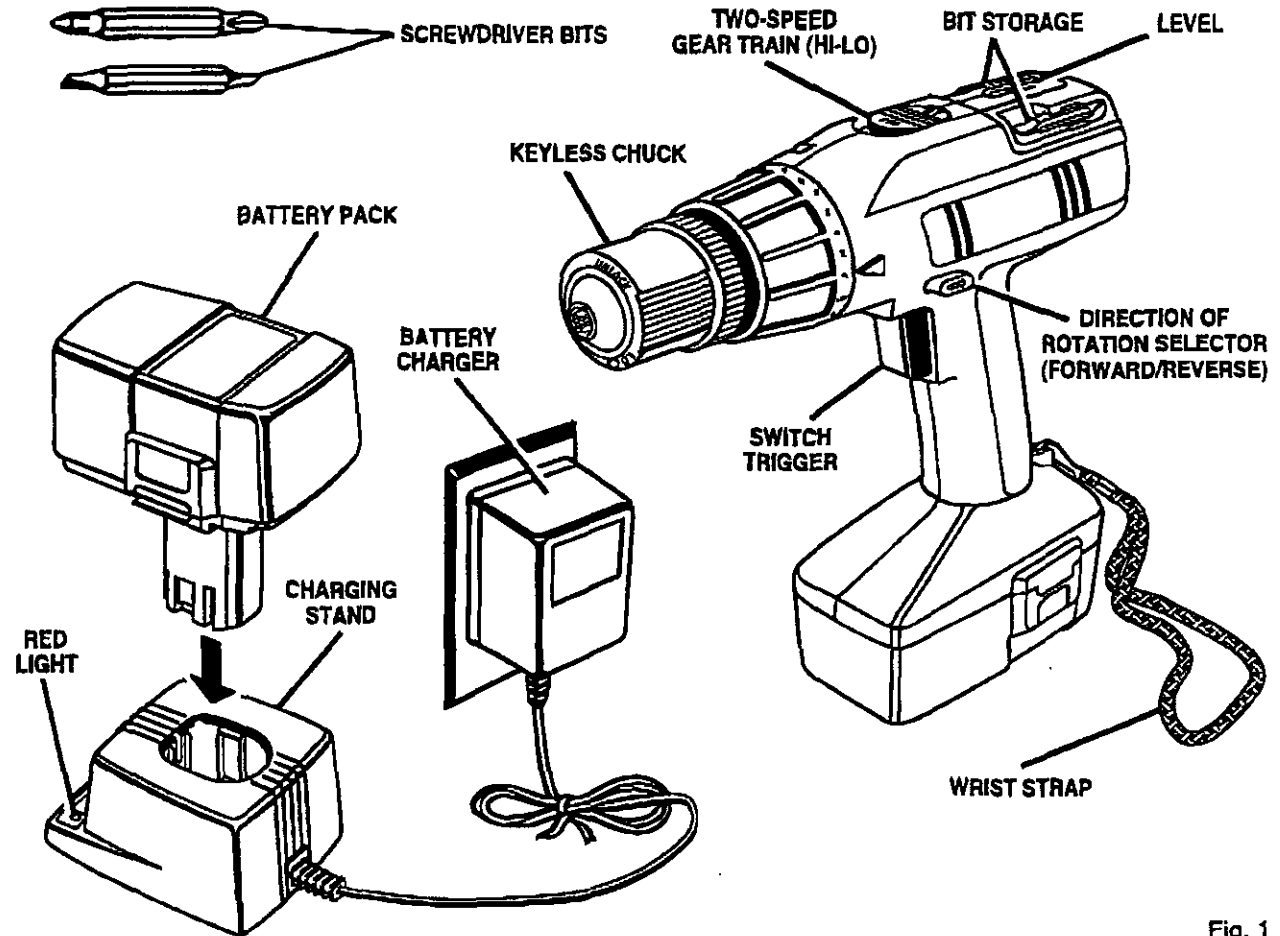

Fig. 1
*See Figure 1.*
- Place battery pack in charging stand. Align raised rib on battery pack with groove in charging stand. *See Figure 1.*